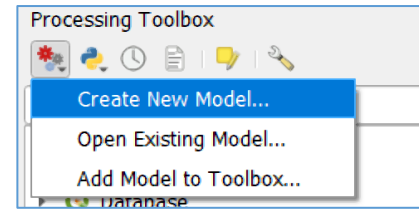

Fig. 3. Creating new model in QGIS option.
- A. Click on the red gear icon at the top of the **Processing Toolbox** and select **Create New Model** (Fig. 3).